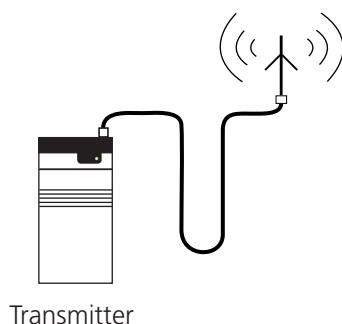

Figure 11. Preventing water to run along the cable and entering the transmitter.
- To prevent water from running along the antenna cable and entering the transmitter, let the cable form a loop downwards. See figure 11 below.